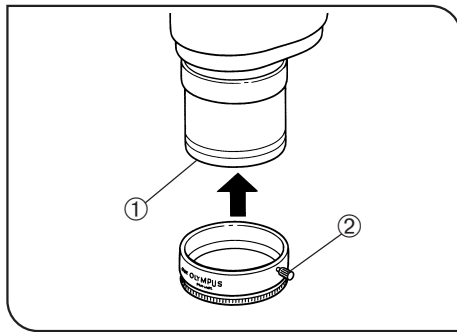

Fig. 20
(Figs. 20 & 21)
- With the SZX-AN's label-side facing to the front, insert the analyzer into the distal end of the objective ① as far as it will go. Then tighten the fixing knob ② firmly. (Fig. 20)